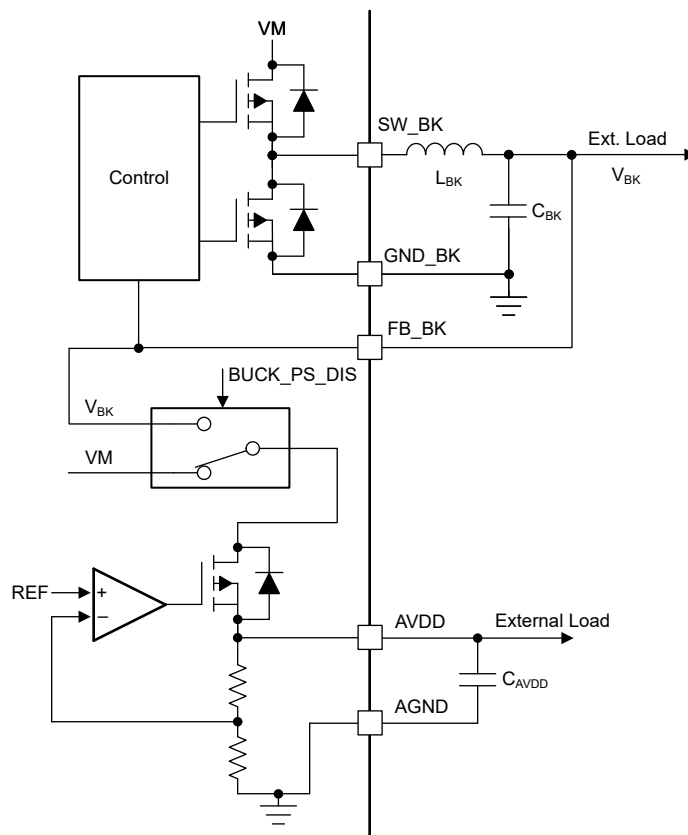

Figure 8-11. AVDD Power Sequencing on mixed mode Buck Regulator
The AVDD LDO has an option of using the power supply from mixed mode buck regulator to reduce power dissipation internally. The power sequencing mode allows on-the-fly changeover of LDO power supply from DC mains (VM) to buck output (VBK) as shown in Figure 8-11. This sequencing can be configured through the BUCK_PS_DIS bit . Power sequencing is supported only when buck output voltage is set to 5.0 V or 5.7 V.